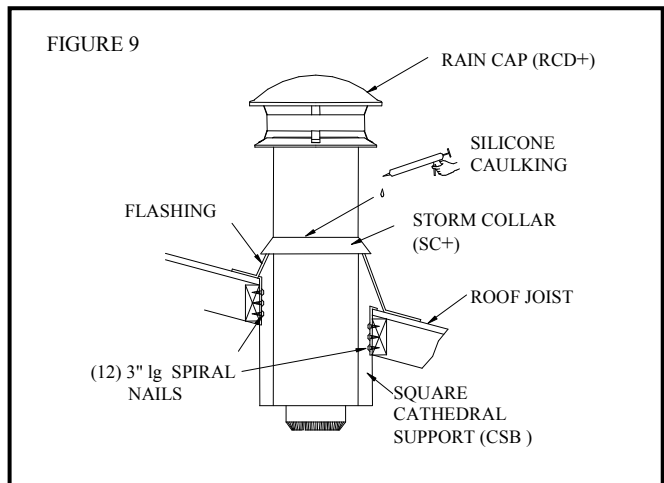

FIGURE 9
This support is similar in application and installation as the cathedral support (CS). Install it using the instructions above (refer to Fig. 9 for visual references).